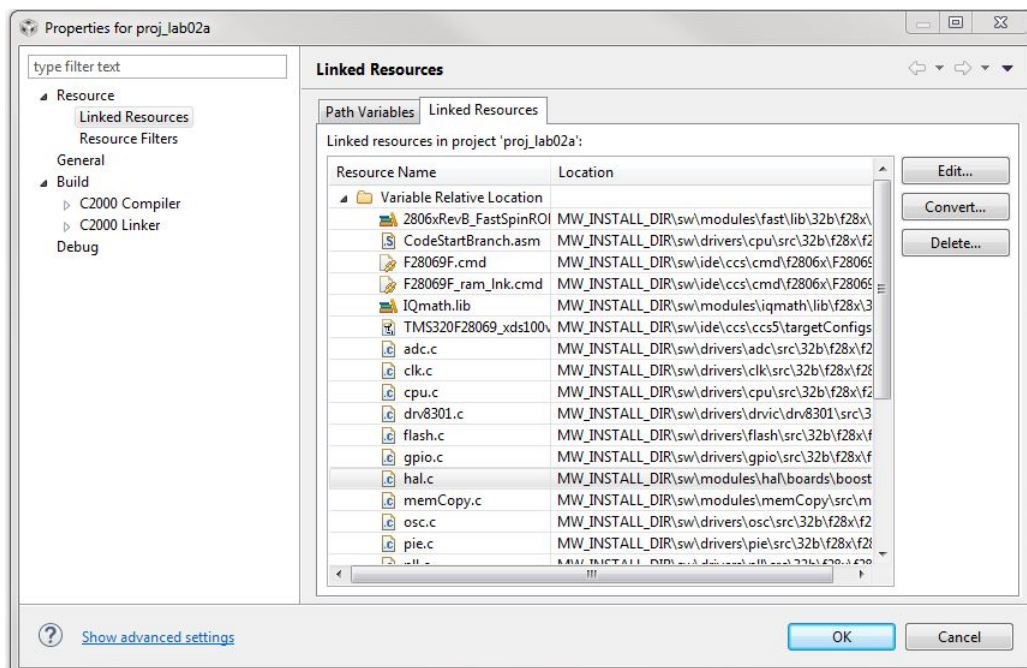

Figure 8. Dialog Window for Step 5a
- a. In the *File* menu, navigate to "Resources" → "Linked Resources", and in the dialog window click the tab on the right for linked resources, as Figure 8 shows: